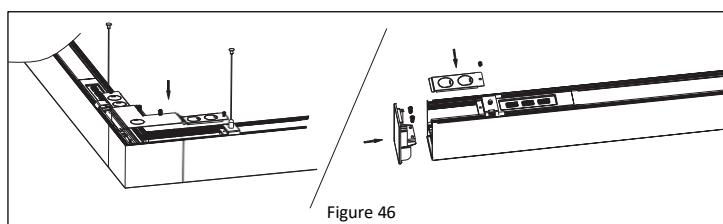

Figure 46
- Reinstall the cover of "L" connector and the fixture. **See Figure 46.**